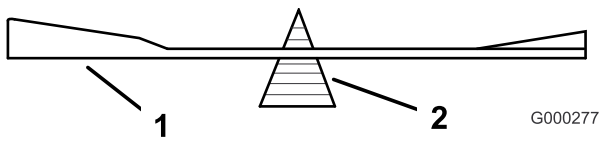
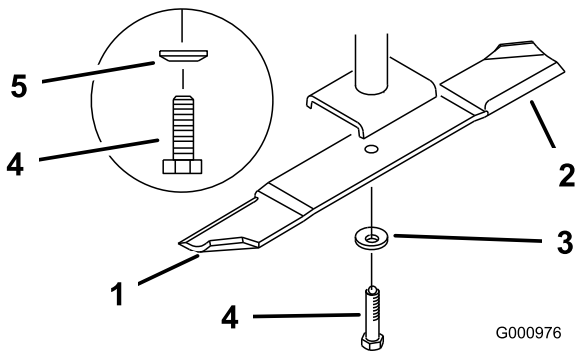

Figure 84
Figure 85
2. Remove the blade bolt, spring disk and blade from the spindle shaft (Figure 85).
2. Check the balance of the blade by putting it on a blade balancer (Figure 84). If the blade stays in a horizontal position, the blade is balanced and can be used. If the blade is not balanced, file some metal off the end of the sail area only (Figure 85). Repeat this procedure until the blade is balanced.
1. Install the blade onto the spindle shaft (Figure 85).
2. Install the spring disk and blade bolt. The spring disk cone must be installed toward the bolt head (Figure 85). Torque the blade bolt to 85-110 ft-lb (115-150 N-m).